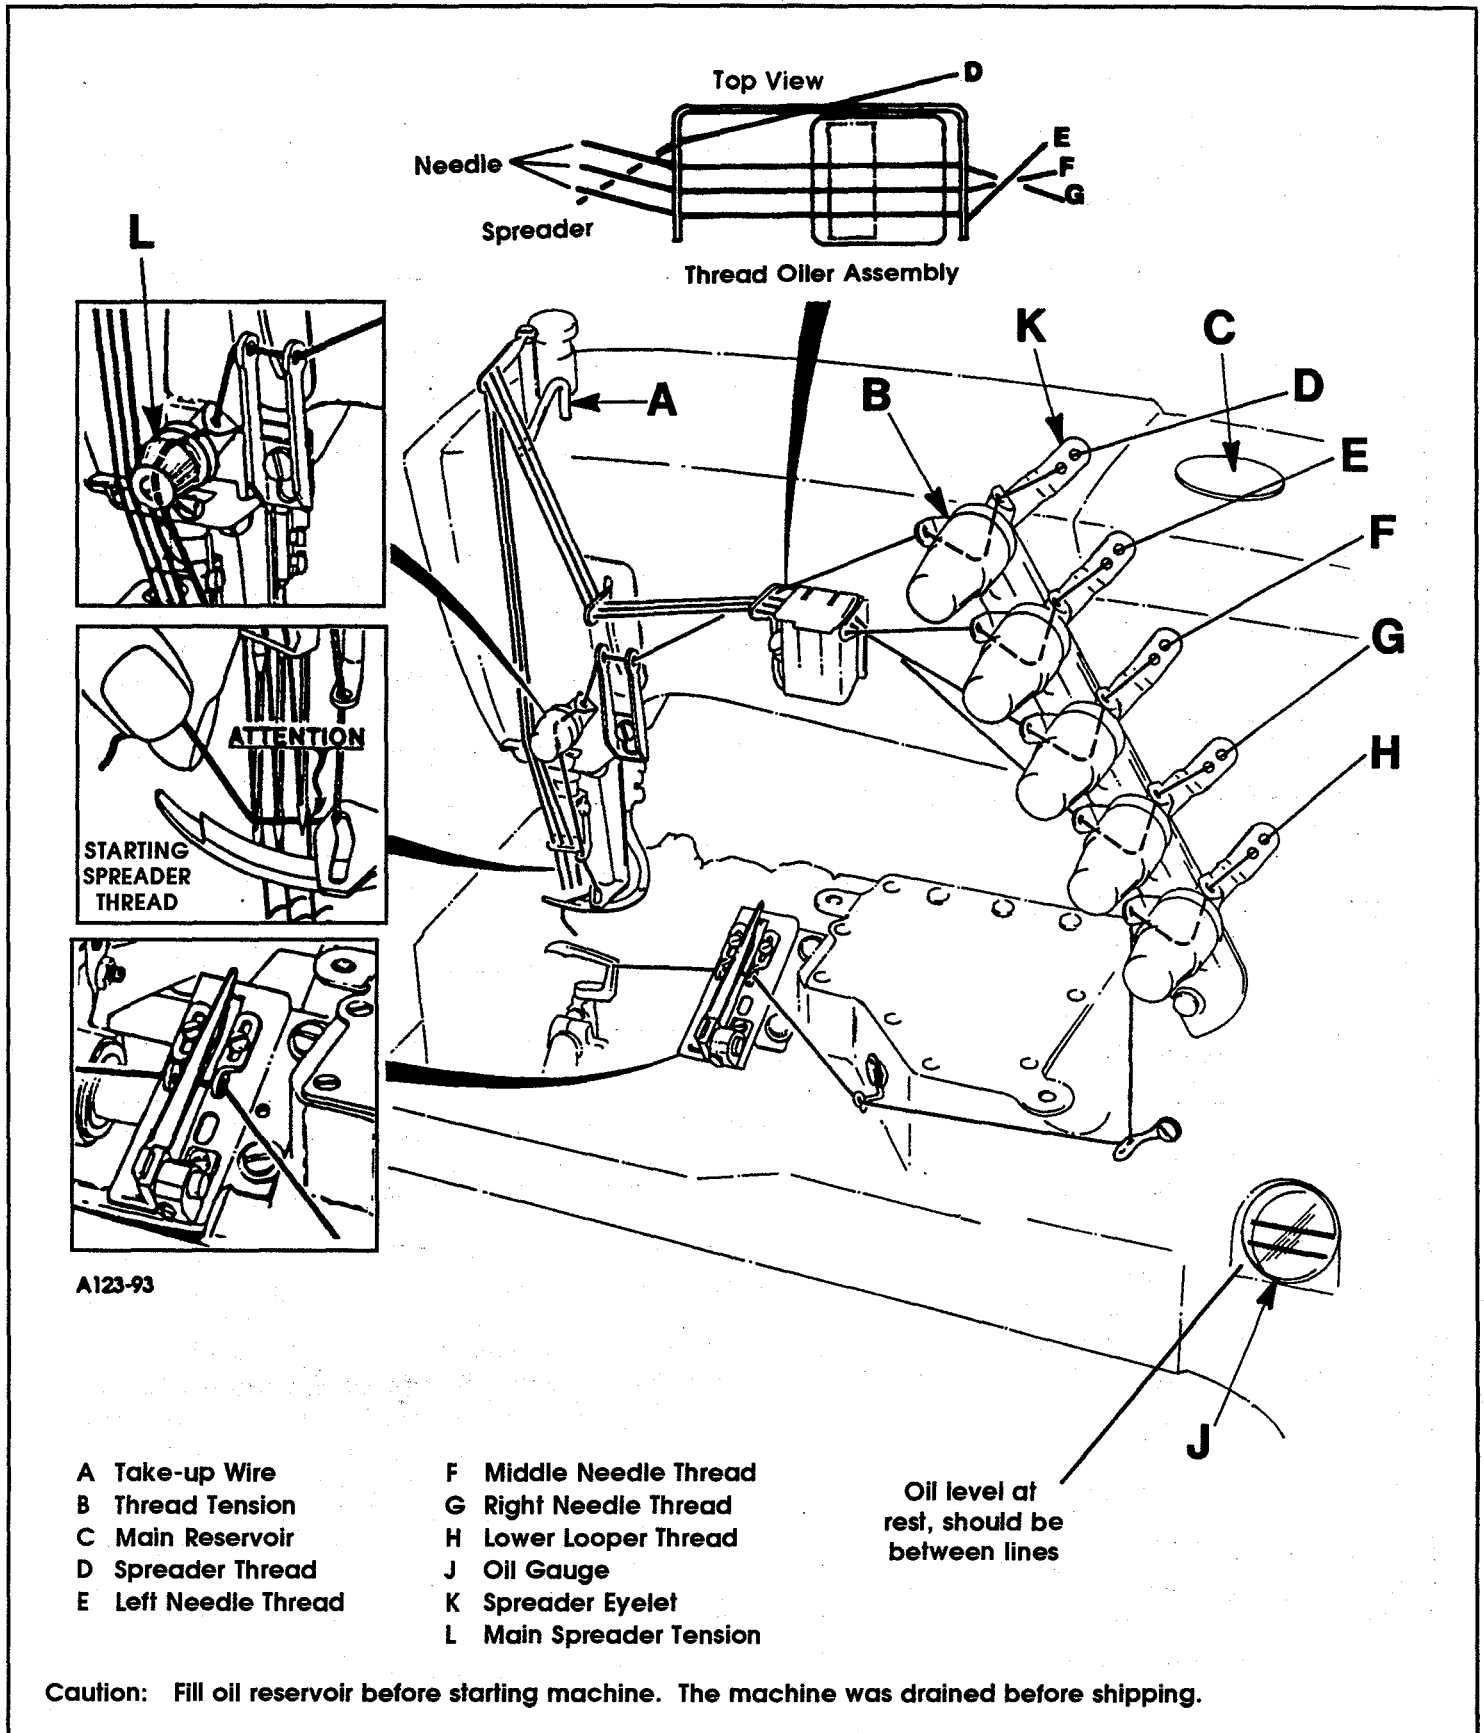

FIG. 3
Thread machine as illustrated in Fig. 3. If needle thread take-up wire is used, it should be set to barely contact **RIGHT** needle thread (**G**) ONLY, at bottom of needle bar stroke.
Thread machine as indicated. Three needle machine illustrated, but two needle machines are threaded in a similar manner. Needle thread take-up wire (A, Fig. 3) should be set to contact only the RIGHT needle thread (G) when needle bar is at bottom of stroke on all Styles.